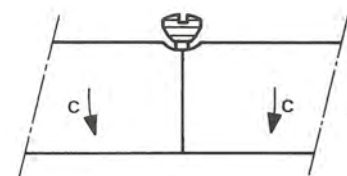

Fig. 12.
- Slacken one of the nuts (12) as far as possible.
- Break the joint by pulling in the direction of arrow C as shown in Fig. 12.